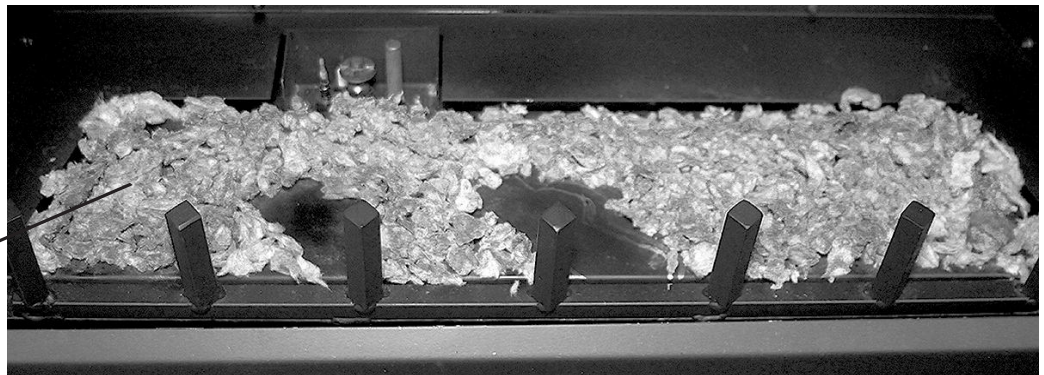

Figure 16 - Rock Wool Placement
2. Break up rock wool (ember material) into dime-sized pieces. Place evenly across burner surface and mesh of grate. Do not exceed 1" depth of coverage. *See Figure 16*